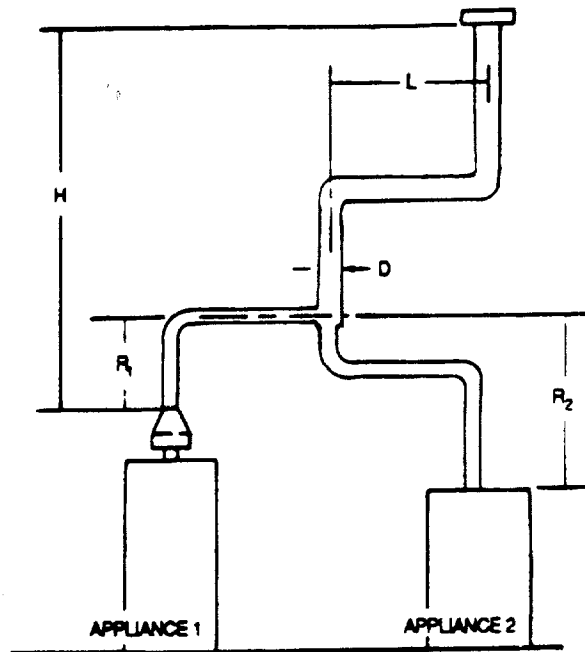

FIGURE 16
6. If the common vertical vent is offset as shown in Figure 16, the maximum common vent capacity listed in the common venting tables should be reduced by 20% (0.80 x maximum common vent capacity).